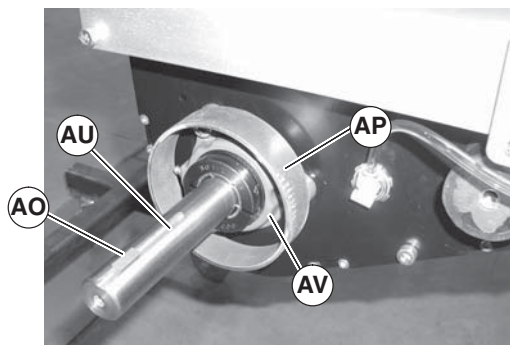
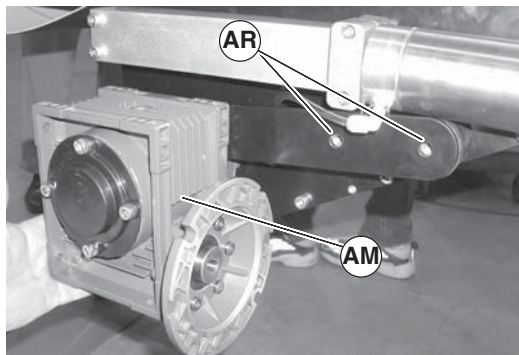

Figure 19
Figure 21
3. Install key (Figure 19, item AO) on drive shaft (AU).
5. Slide gearmotor (Figure 21, item AM) on to drive shaft (Figure 19, item AU). Tighten mounting screws (AR) to 200 in-lbs (22.5 N-m).